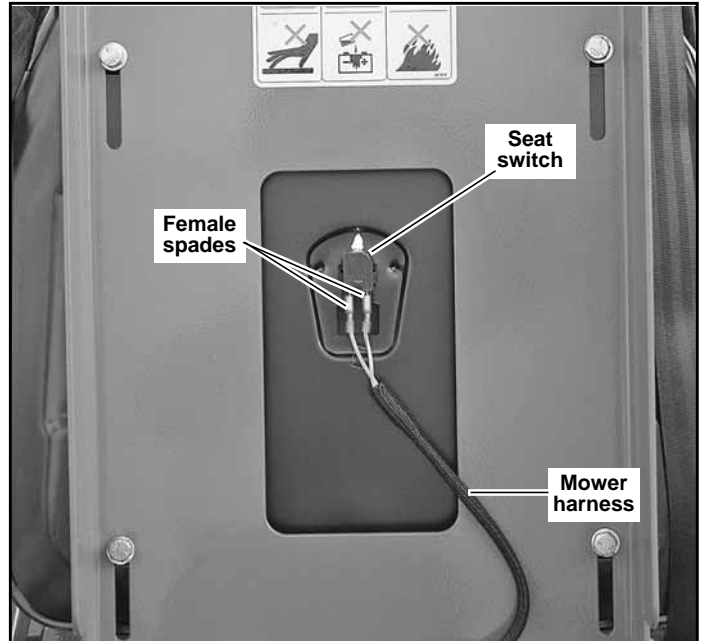

Figure 4-1
3. Raise the seat platform and disconnect the mower harness from the seat switch. Bypass the seat switch by connecting the two mower harness female spades together. Figure 4-1
16. **IMPORTANT:** With the engine off, disconnect the two female spade connectors from each other (from step #3) and reconnect them to the seat switch. This must be completed so that the safety circuit is functioning properly. Figure 4-1